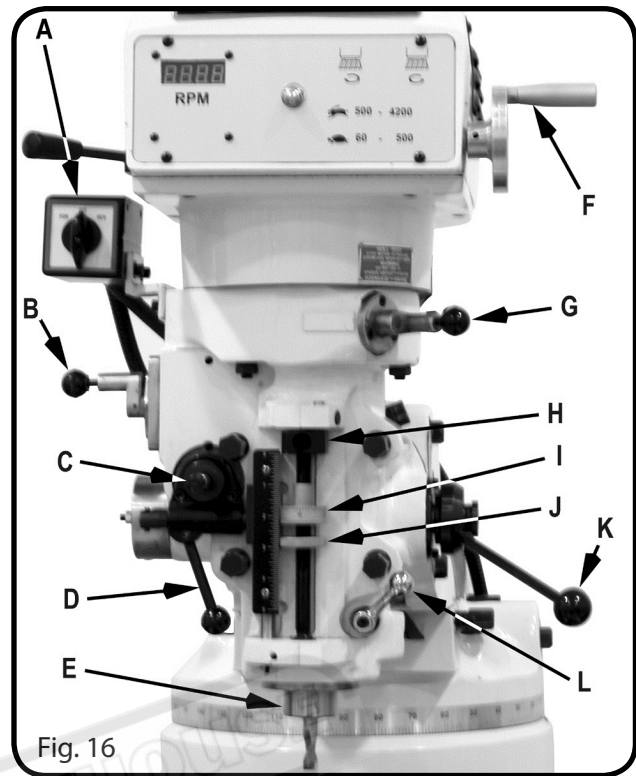

Fig. 16
Referring to Fig. 16:
11. Position auto-downfeed direction pin (see "C" Fig. 16) in center of handwheel for spindle travel that is correct for your operation. If necessary, rock fine downfeed handwheel back-and-forth to move pin all the way in or out.
12. Select feed direction by setting the Feed Direction Knob (C) position per the table: